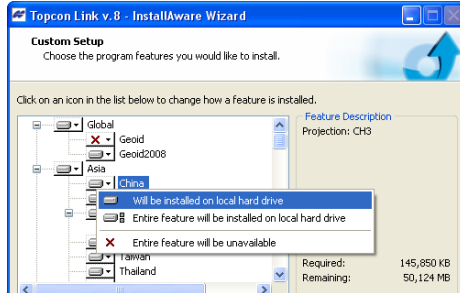

Figure 1-8. Custom Setup Window
3. Select *Modify Available Options* and click **Next** (Figure 1-8)